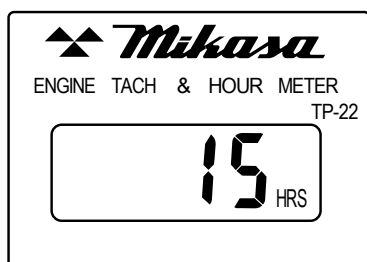

Figure 10. Hour Tachometer (Cumulative Time)
1. When the engine is stopped, the hour tachometer always shows "operation time" (Figure 10).